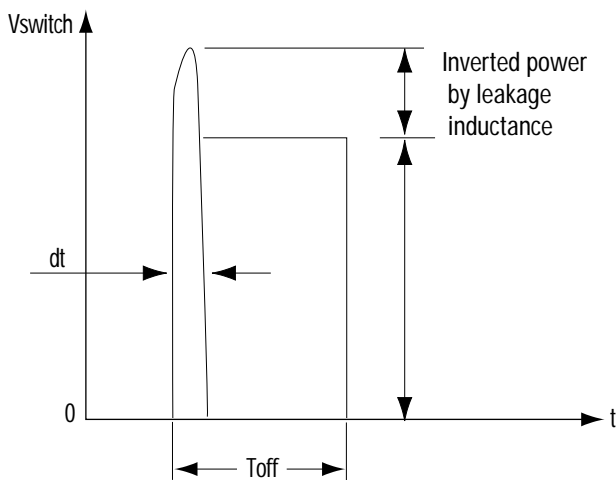

Fig. 5-17
- 2) PEF10 : Smooth the voltage converted to DC(Refer to VIN of Fig. 5-17)
- ❶ Rush current = (AC input voltage x 1.414 - Diode drop voltage) / Pattern resistance + PLF01, PLS01 resistance + PCD01 resistance + PRF10) (AC230V based : approx. 26A)
- ❷ Without PRF10, the bridge diode might be damaged as the rush current increases.